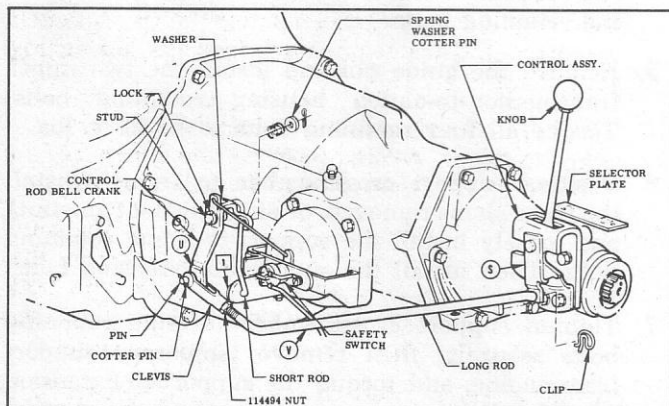

Fig. 2—Shift Linkage Adjustment
2. Remove the clevis pin at bell crank (U) and set bell crank in park position (fig. 2).